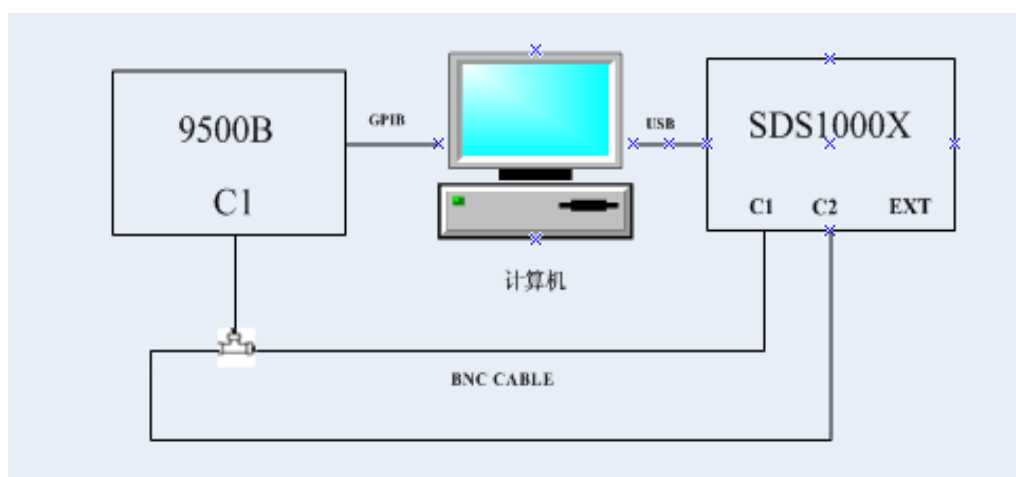

Figure 11 Connecting test instruments for DCG\Offset
2. Connect all channels of the oscilloscope to the 9500B as shown in Figure 11.
2. Connect all channels of the oscilloscope to 9500B as shown in Figure 11.